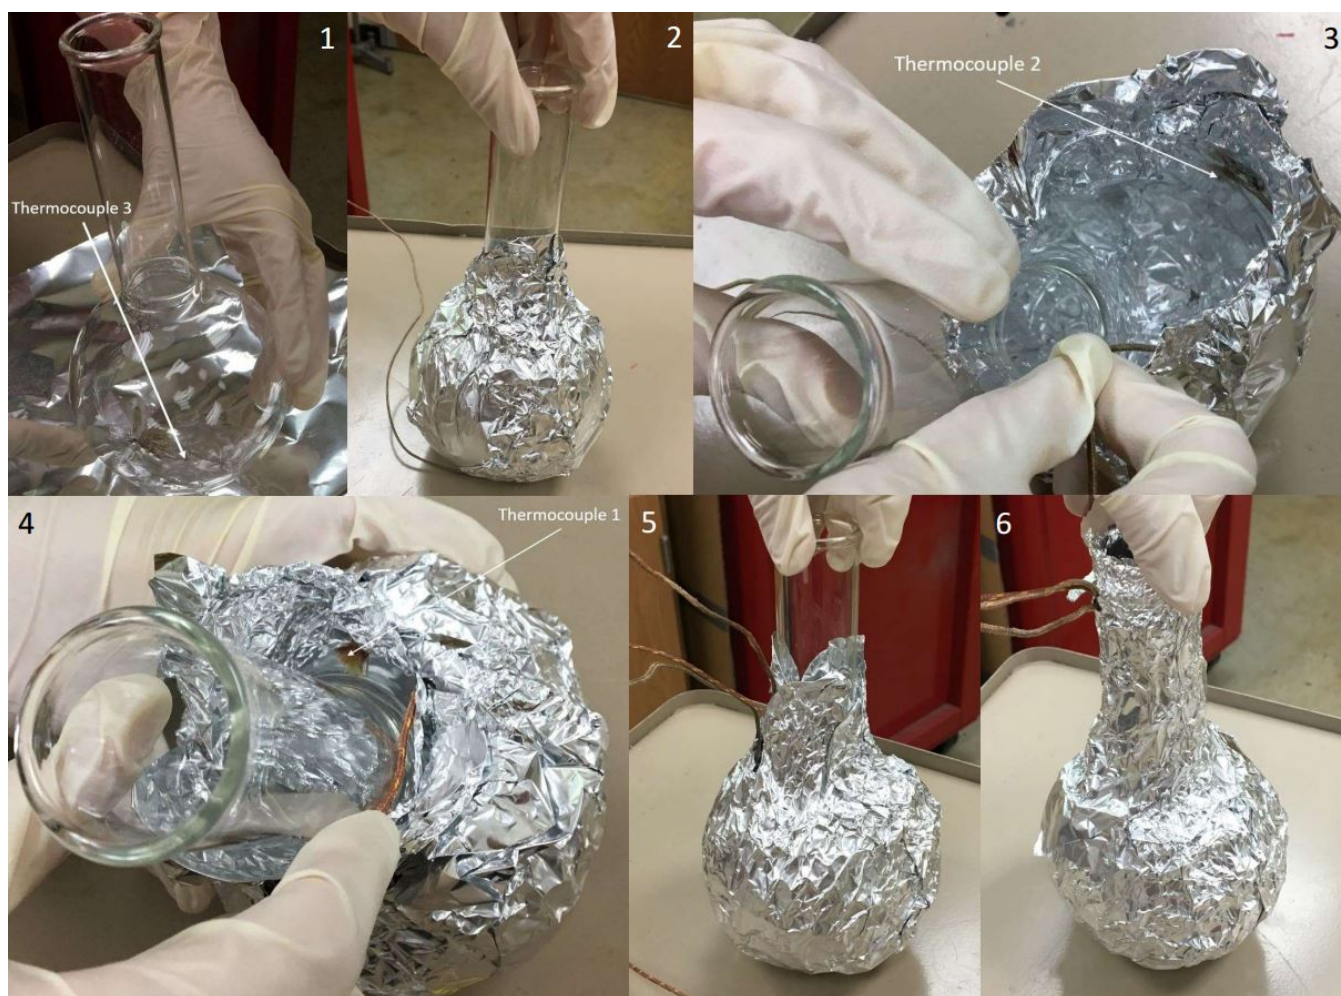

Figure 1: Steps for wrapping the flask in foil
- Wrap entire flask in aluminum foil with thermocouples at the bottom, side and top of the round part of the flask (thermocouples should be touching the glass directly) (Refer to Figure 1)
- \* Slide thermocouple 2 down to the approximate middle/equator of the flask between the flask and foil and use a second piece of foil to wrap further up the flask, ensuring the thermocouple wires run parallel up the side of the flask (3)
- \* Place thermocouple 1 at the top of the bulb of the flask (not on the neck of the flask) and use a third piece of foil to wrap around the top starting at the middle (4)
- \* Add an additional layer of foil around the flask so the wires are covered and run parallel when wrapping is finished (5)
- \* The thermocouple wires should emerge from the foil covering near the top (but not at the top) of the flask neck, allowing them to run between the two ceramic halves of the lid assembly (6)